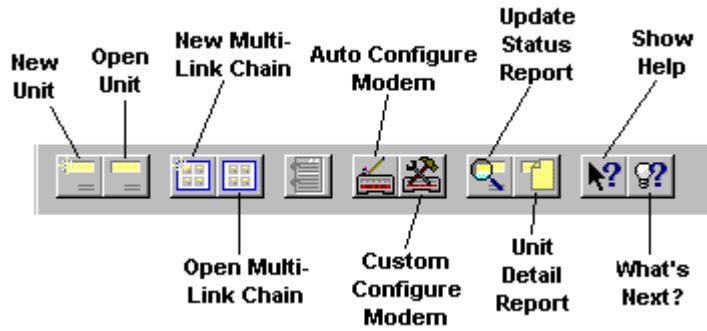

Figure 3: Security Window
- 2 At the Security window (Figure 3), enter/edit the password. *The password must be entered twice for verification.*